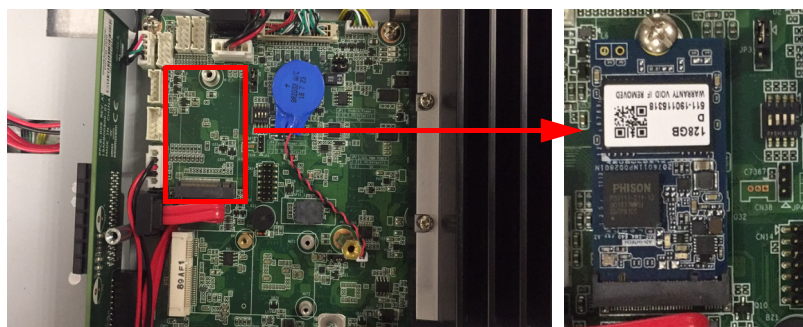

Figure 2.15
2. Plug the M.2 into the mainboard interface, and remove the 2 M2.5x4 screws from the accessory box to fix it (See Fig 2.15).